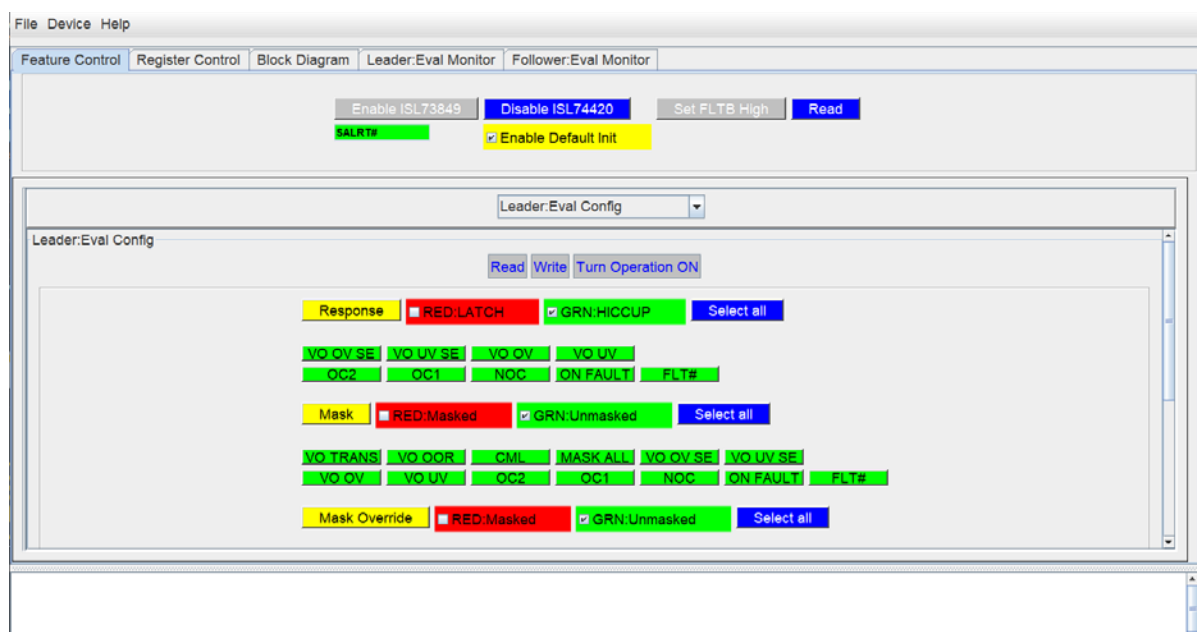

Figure 7. ISL73849MEVAL2Z4 4-Phase GUI
21. The 4-Phase GUI opens as shown in Figure 7. By default, the **Feature Control** tab is selected. The OPERATION, FAULT_RESPONSE, FAULT_MASK, SALERT_MASK_OVERRIDE, VOUT_OV_LIMIT, VOUT_UV_LIMIT, EN_PWM_PH, SS_CONFIG, OC_TH, VOUT_TRANSITION_RATE, VOUT_COMMAND, and SET_FOLLOWER Leader registers are all available for programming in this window. To view the corresponding registers for the Follower, open the drop-down and select **Follower:Eval Config**.